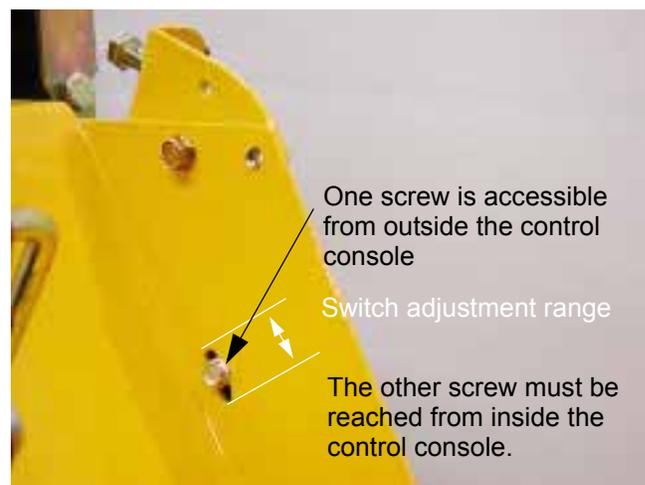

Figure 9.8
- 9.7. Tighten the screws, and double-check the adjustment. See Figure 9.8.